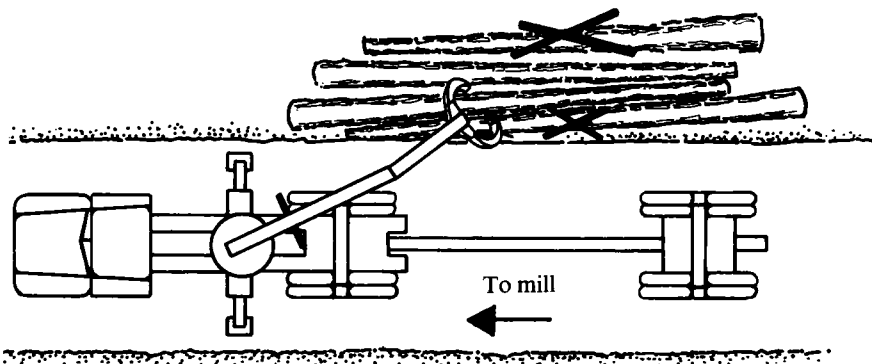

Figure 2.—Deck long, limber logs with butts toward the loader.
- Deck long, limber logs with butts toward the loader (see figure 2); otherwise, they will break during loading.